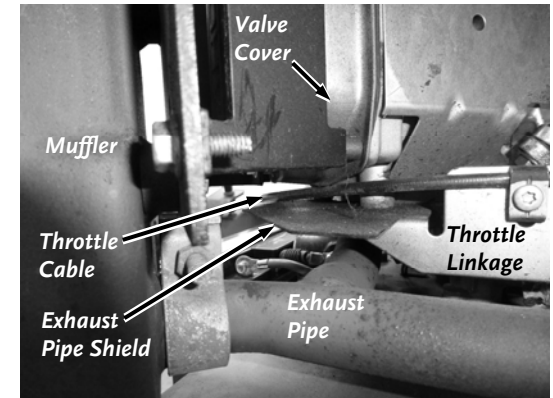

Figure 14a
2. Continue by inserting the Cable between the Valve Cover and Exhaust Pipe Shield, then to the Throttle Linkage at the rear of the Engine (**Figure 14a**).